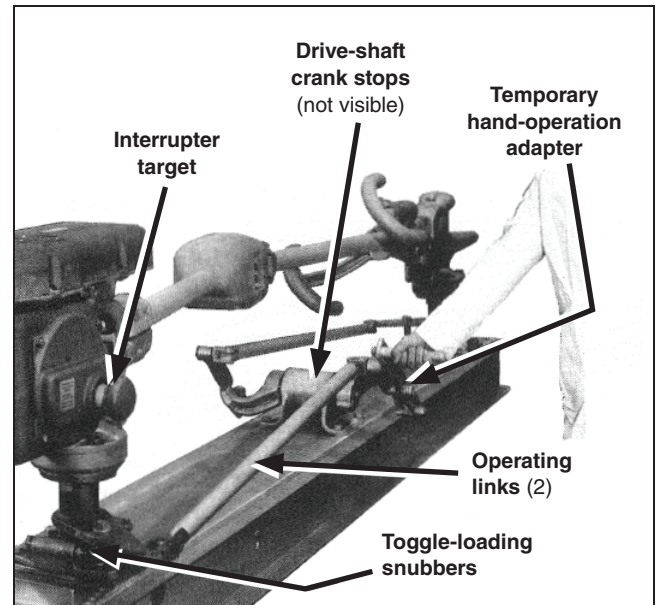
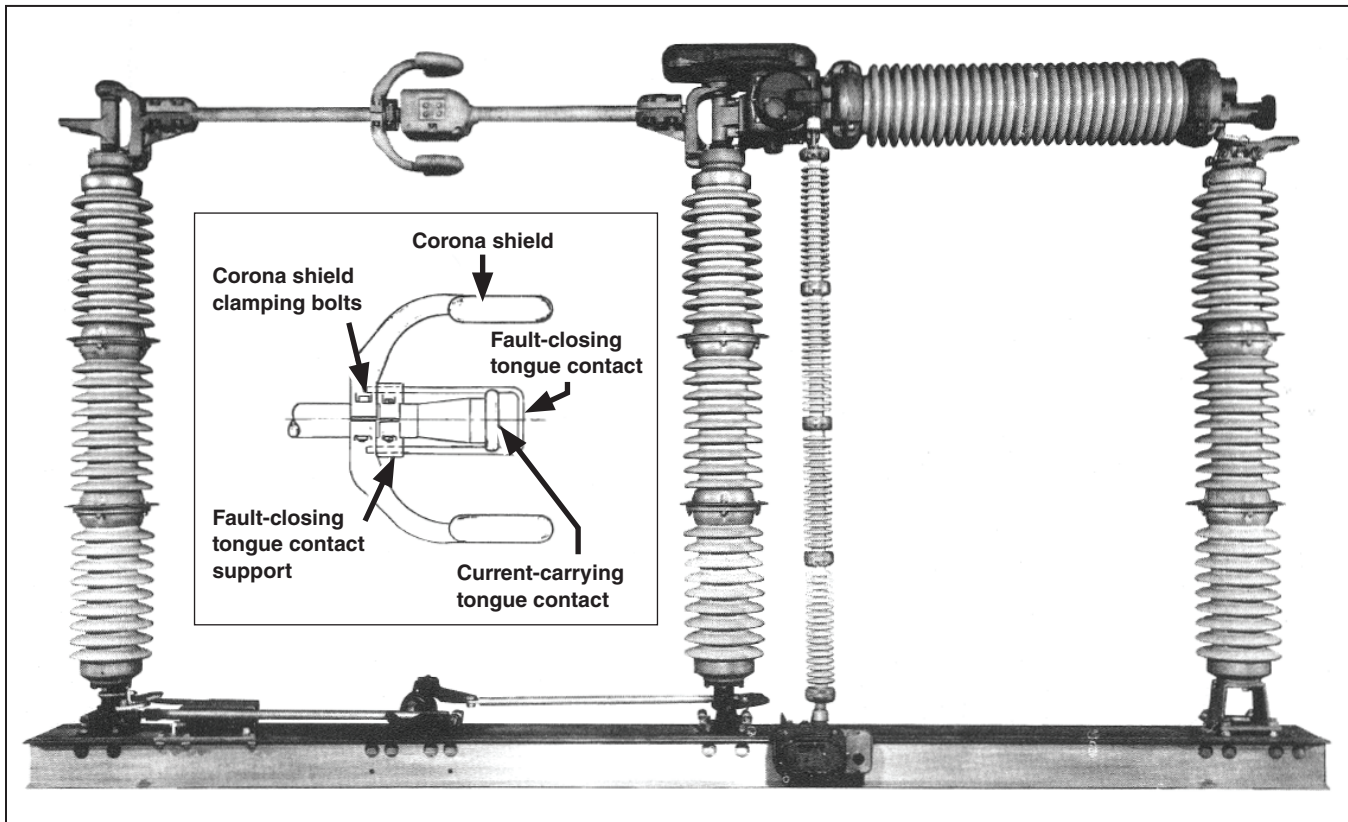

Figure 4. The base-integrated power train being operated with the temporary hand-operation adapter.
Figure 18. Pole-unit of a 230 kV circuit-switcher showing corona shield in its normal position.
- STEP 2.** Attach the temporary hand-operation adapter, which is provided, to the drive-shaft crank on the side opposite the direction of blade opening as shown in Figure 4. (Use this same temporary hand-operation adapter when checking and adjusting the other two pole-units.)
- (d) As the circuit-switcher reaches either the fully **Open** or fully **Closed** position, the drive-shaft crank will be felt to strike firmly against an internal driveshaft crank stop (not visible) in the drive-shaft assembly. See Figure 4 on page 9. The toggle-loading snubbers (located on the pole-unit base adjacent to the rotating-insulator supports) maintain positive toggle locking at each end of the operating stroke. Both the internal drive-shaft crank stops in the drive-shaft assembly and the toggle-loading snubbers have been carefully adjusted at the factory and readjustment should not be attempted.
Note: A corona shield is furnished, to be attached to the tongue-contact blade assembly as shown in Figure 18 on page 20. As shipped, however, the corona shield is clamped near the hinge end of the tongue-contact blade, as shown in Figure 4 on page 9, to prevent interference with the drive-shaft crank. Do not move the corona shield to its normal position until so directed in Step 21 on page 19.
STEP 21. Loosen the corona-shield clamping bolts and slide the corona shield to its correct position (with rod ends of the fault-closing tongue contact indexed to holes in the corona shield) against the fault-closing tongue contact support, as shown in the inset of Figure 18 on page 20. Tighten the clamping bolts.